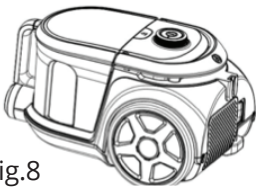

Fig.8
1. As seen in Fig. 8, hold the dust collector and press the release button.